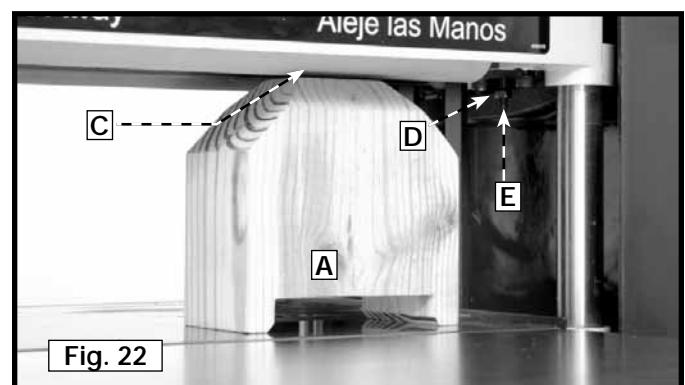

Fig. 22
5. Remove the feeler gauge and move the gauge block (A) Fig. 22 under one end of the outfeed roller (C). The bottom of the outfeed roller should touch the top of the gauge block.
6. To adjust the outfeed roller, loosen the locknut (D) Fig. 22 and use a hex wrench to turn the adjusting screw (E) until outfeed roller touches the gauge block (A). Tighten the locknut.